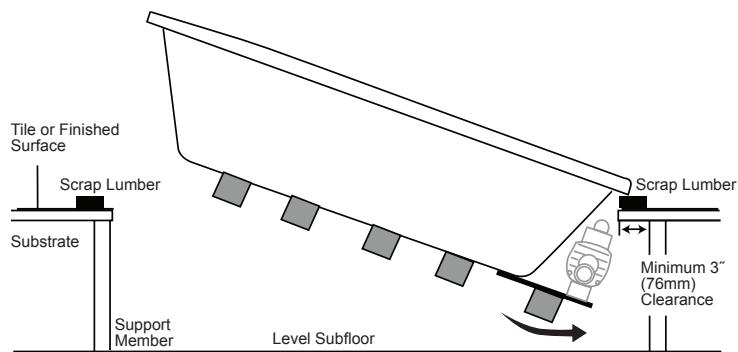

Figure 9
- 12** Place a piece of scrap lumber on each of the ends of the cutout – this will be used as a temporary support prior to lowering the bathtub fully into the opening (Figure 9).